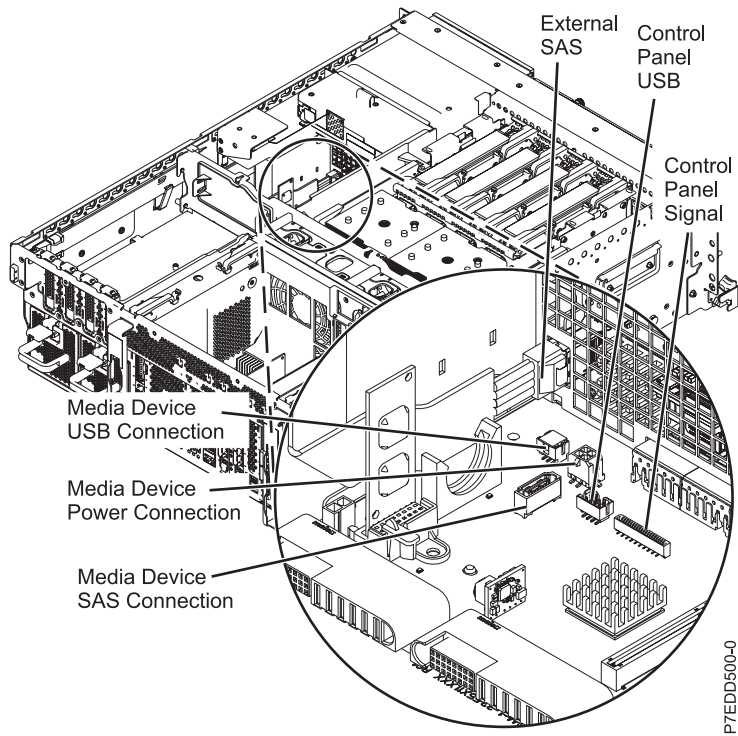

Figure 30. Disconnecting the internal cables
20. Disconnect the internal cables from the backplane and remove the SPCN cable from the rear of the chassis. See Figure 30 on page 56.